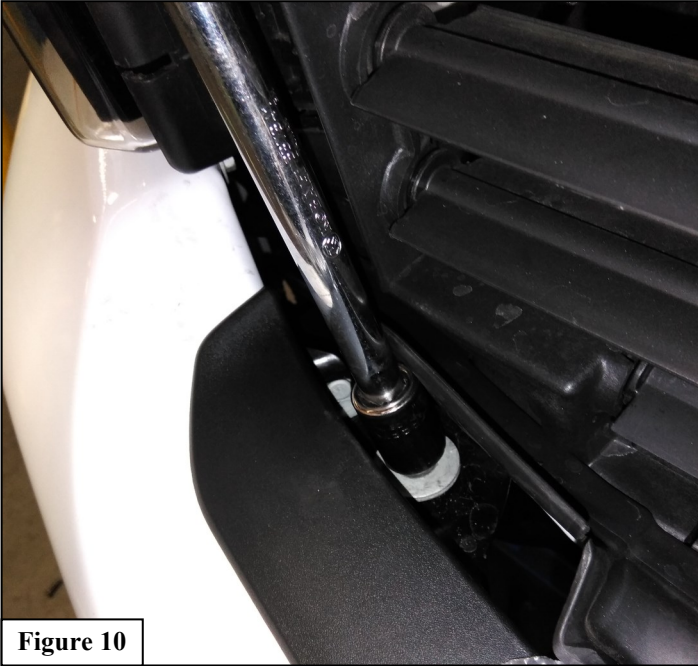

Figure 10
15. Remove the 4 bolts behind the plastic cover securing the bumper to the vehicle. See **Figure 10** for reference.